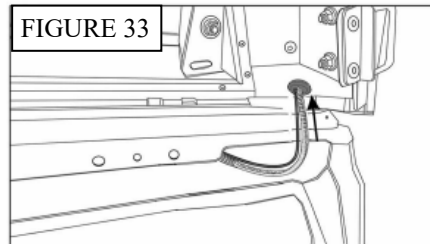

FIGURE 33
25. Tuck the wires into the rear right pillar of the topper and install the rubber grommet (**Fig. 33**).